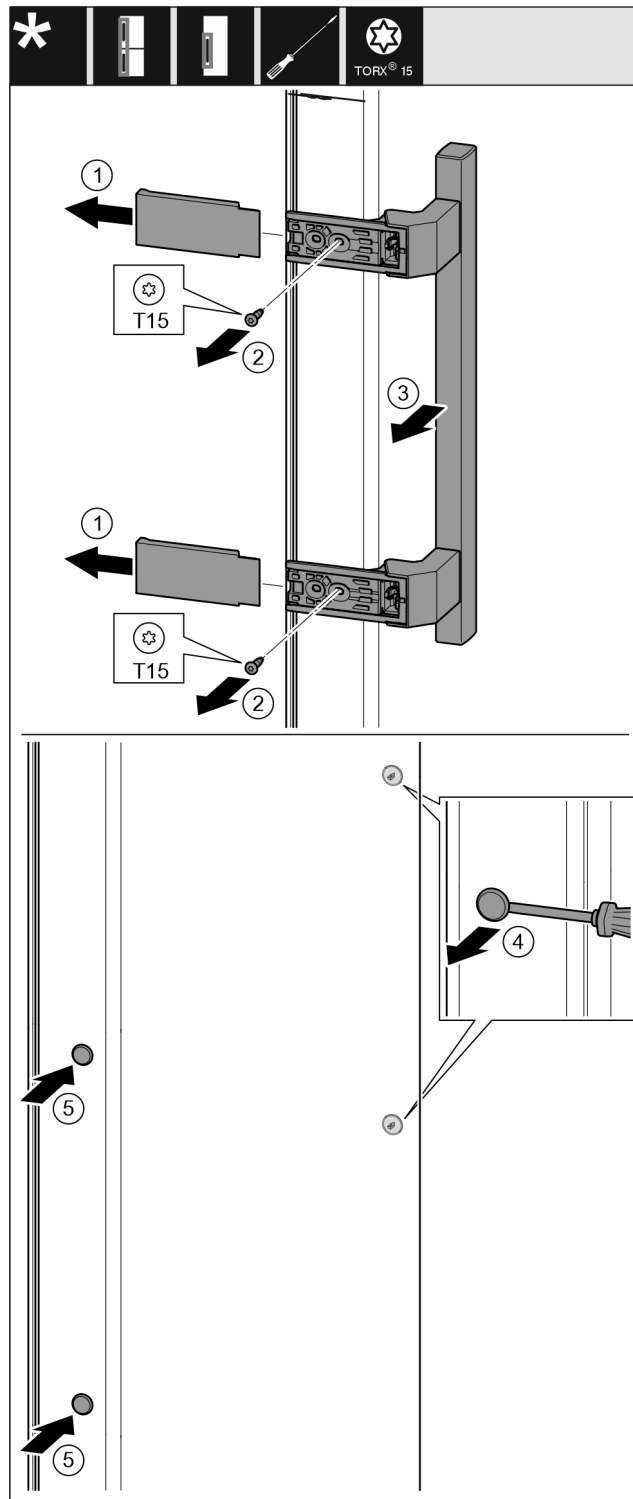

Fig. 17
- Pull off the cover. Fig. 17 (1)
- Remove the screws with a T15 screwdriver. Fig. 17 (2)
- Take off the handle. Fig. 17 (3)
- Carefully lift up the side plugs with a slotted screwdriver and pull them out. Fig. 17 (4)
- Insert the plugs again on the other side. Fig. 17 (5)